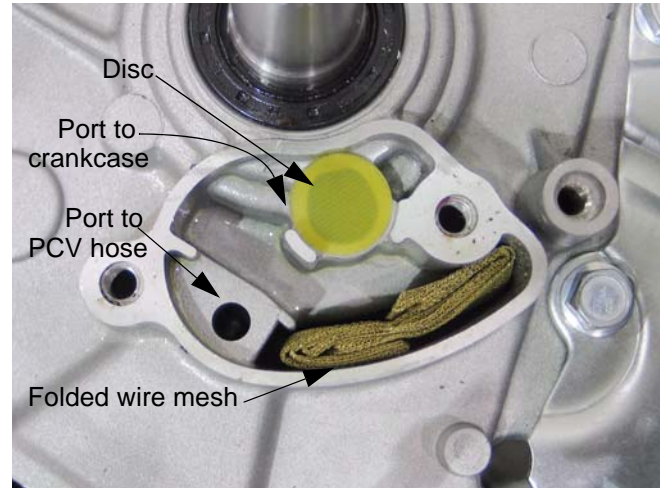

Figure 11.10
11.10. The folded wire mesh in the chamber also helps separate the oil from the air. See Figure 11.10.